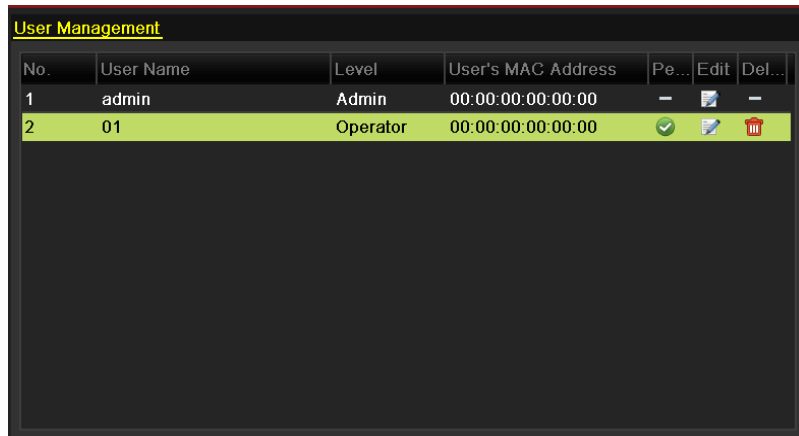

Figure 15. 10 User List
2. Select the user to be deleted from the list, as shown in Figure 15. 10.